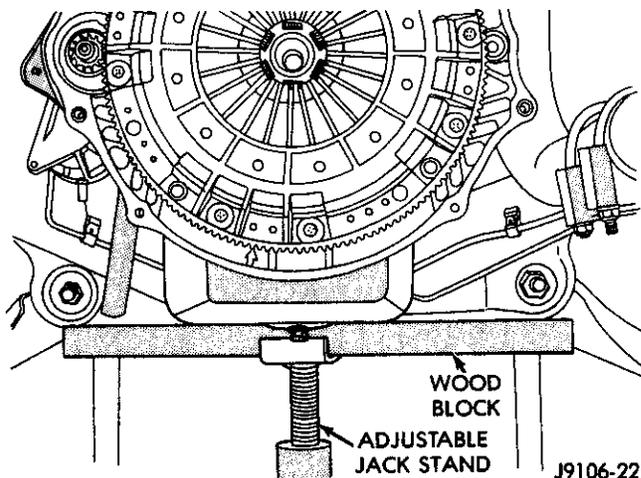

Fig. 1 Supporting Engine With Jack Stand And Wood Block (Diesel Model Shown)
- (1) Raise vehicle.
- (2) Remove transmission and remove transfer case if equipped. Refer to Group 21 for procedures.
- (3) Remove clutch housing from engine.
- (4) Support engine with wood block and adjustable jack stand (Fig. 1). Supporting engine is necessary to avoid undue strain on engine mounts.